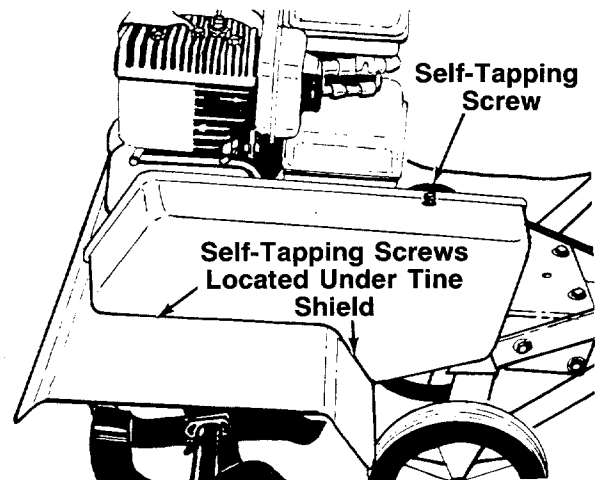

FIGURE 23.
1. Remove the belt cover by removing three self-tapping screws. A 3/8" wrench is required. See figure 23.
2. After removing three screws, lift off belt cover. See figures 23 and 24.
6. Reassemble the belt cover. See figure 23.